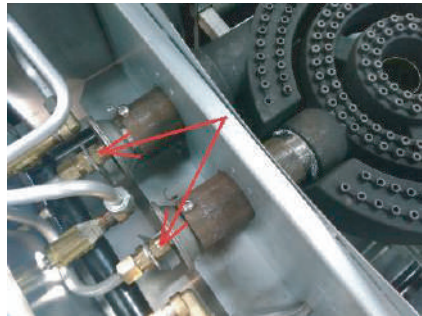

Fig.8
2. As Fig. 8 show, screw out the Nat. gas orifice[#32(ϕ 3.0mm)] counter-clockwise, then screw in the LP gas orifice[#47(ϕ 2.0mm)]clockwise